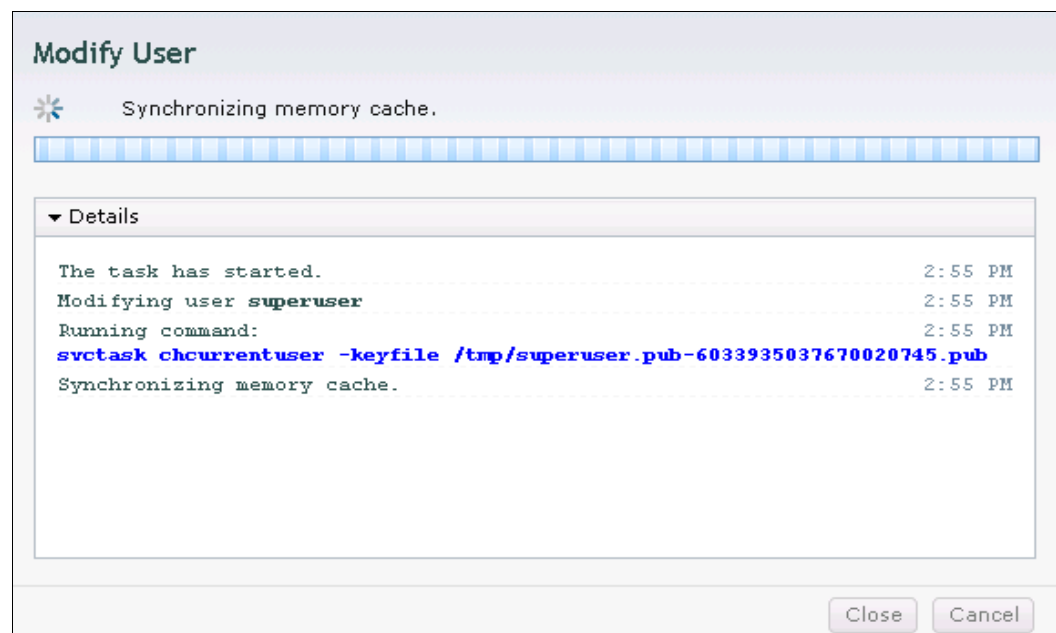

Figure A-9 Public key upload complete
- Click **OK** and the key is uploaded, as shown in Figure A-9.